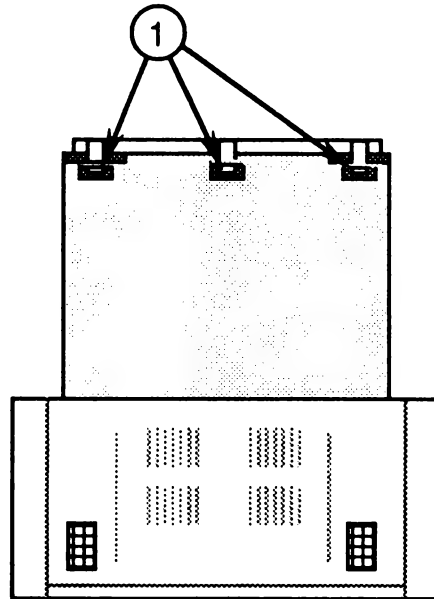

FIGURE 25
6. Fit the rear panel over the three rear control knobs, making sure the plastic "teeth" on the bottom of the panel fit into the openings on the metal chassis (Figure 25, #1).